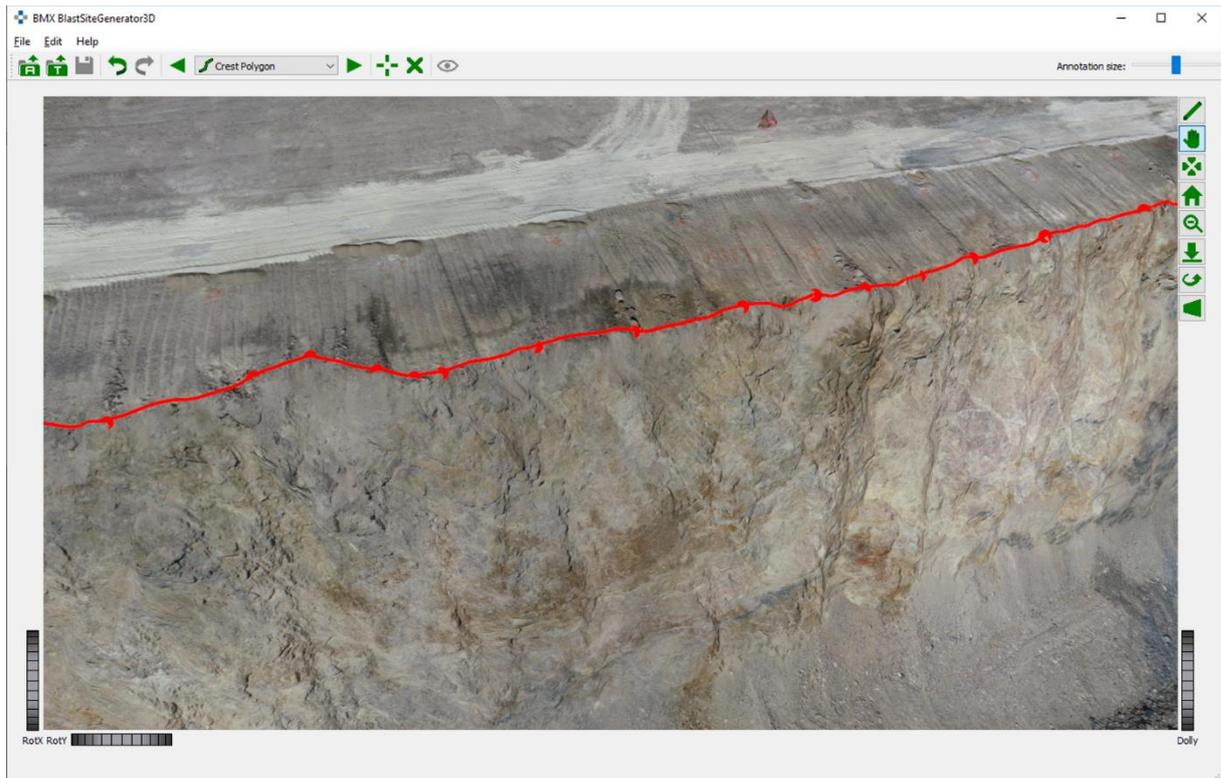

Figure 5: Crest Polygon after confirmation
6. Confirm the polygon by clicking the middle mouse button or by pressing the "*Return*" button on the keyboard. The *Crest Polygon* appears as red continuous line in the viewer (Figure 5).